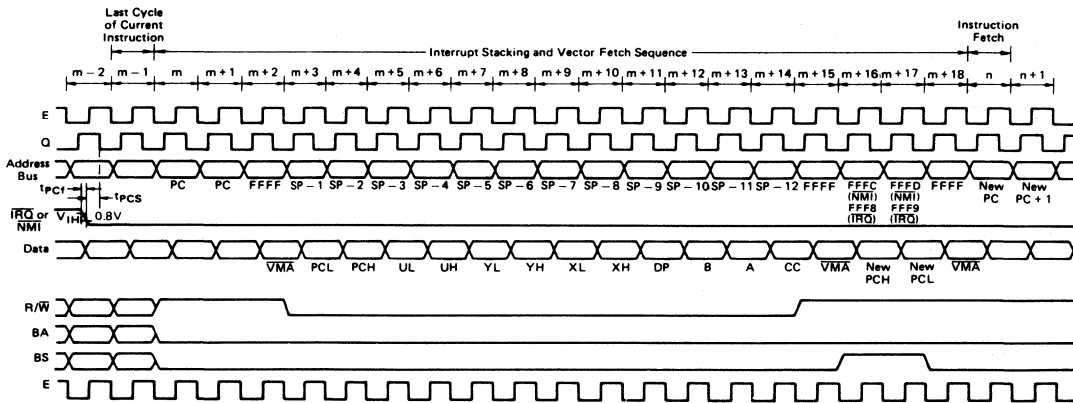

Figure 9  $\overline{\text{IRQ}}$  and  $\overline{\text{NMI}}$  Interrupt Timing
hardware stack. After reset, an  $\overline{\text{NMI}}$  will not be recognized until the first program load of the Hardware Stack Pointer (S). The pulse width of  $\overline{\text{NMI}}$  "Low" must be at least one E cycle. If the  $\overline{\text{NMI}}$  input does not meet the minimum set up with respect to Q, the interrupt will not be recognized until the next cycle. See Fig. 9.
A "Low" level input on this pin will initiate an interrupt Request sequence provided the mask bit (I) in the CC is clear. Since  $\overline{\text{IRQ}}$  stacks the entire machine state it provides a slower response to interrupts than  $\overline{\text{FIRQ}}$ .  $\overline{\text{IRQ}}$  also has a lower priority than  $\overline{\text{FIRQ}}$ . Again, the interrupt service routine should clear the source of the interrupt before doing an RTI. See Fig. 9.